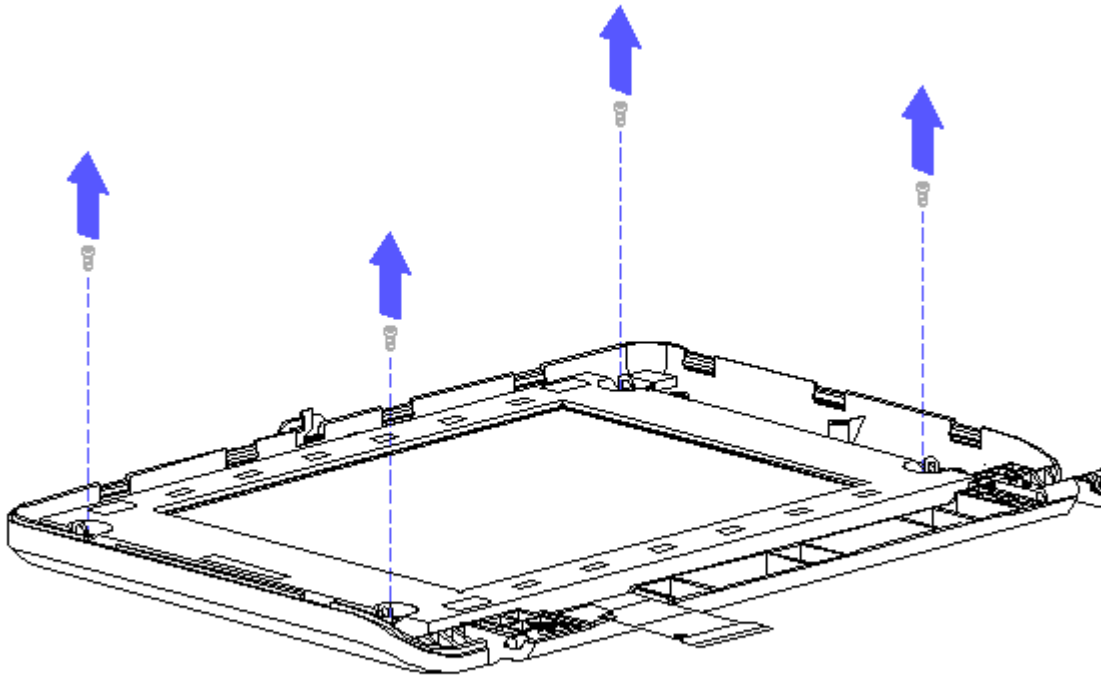

Figure 3-30. Removing Screws from the LCD Panel
2. Remove the remaining four screws that secure the LCD panel to the display enclosure and carefully bend back the tabs that secure the display shield to the LCD panel (Figure 3-30).
1. Remove the remaining four screws that secure the LCD panel to the display enclosure and carefully bend back the tabs that secure the display shield to the LCD panel and remove the LCD panel (Figures 3-30, 3-31).